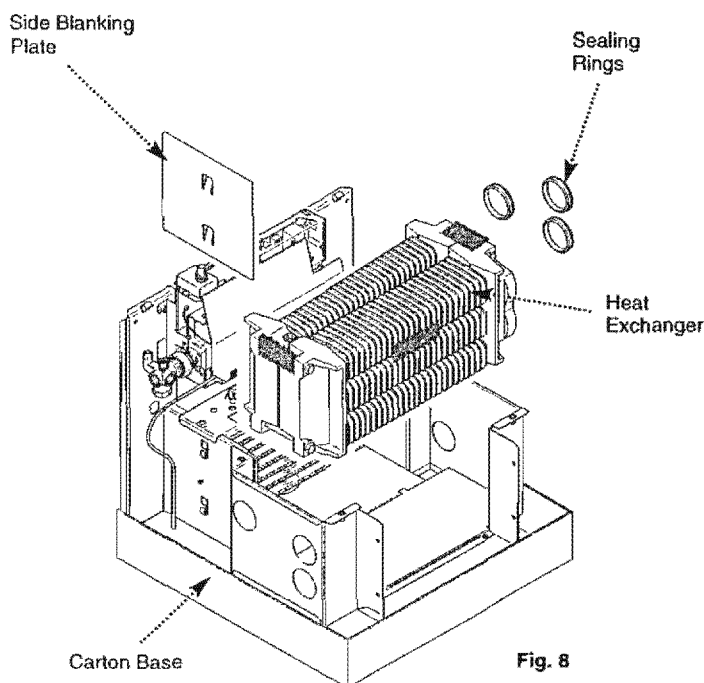

Fig. 8
5. Lift the heat exchanger from the appliance using the lifting points indicated on Fig. 8 and remove the side blanking plate.